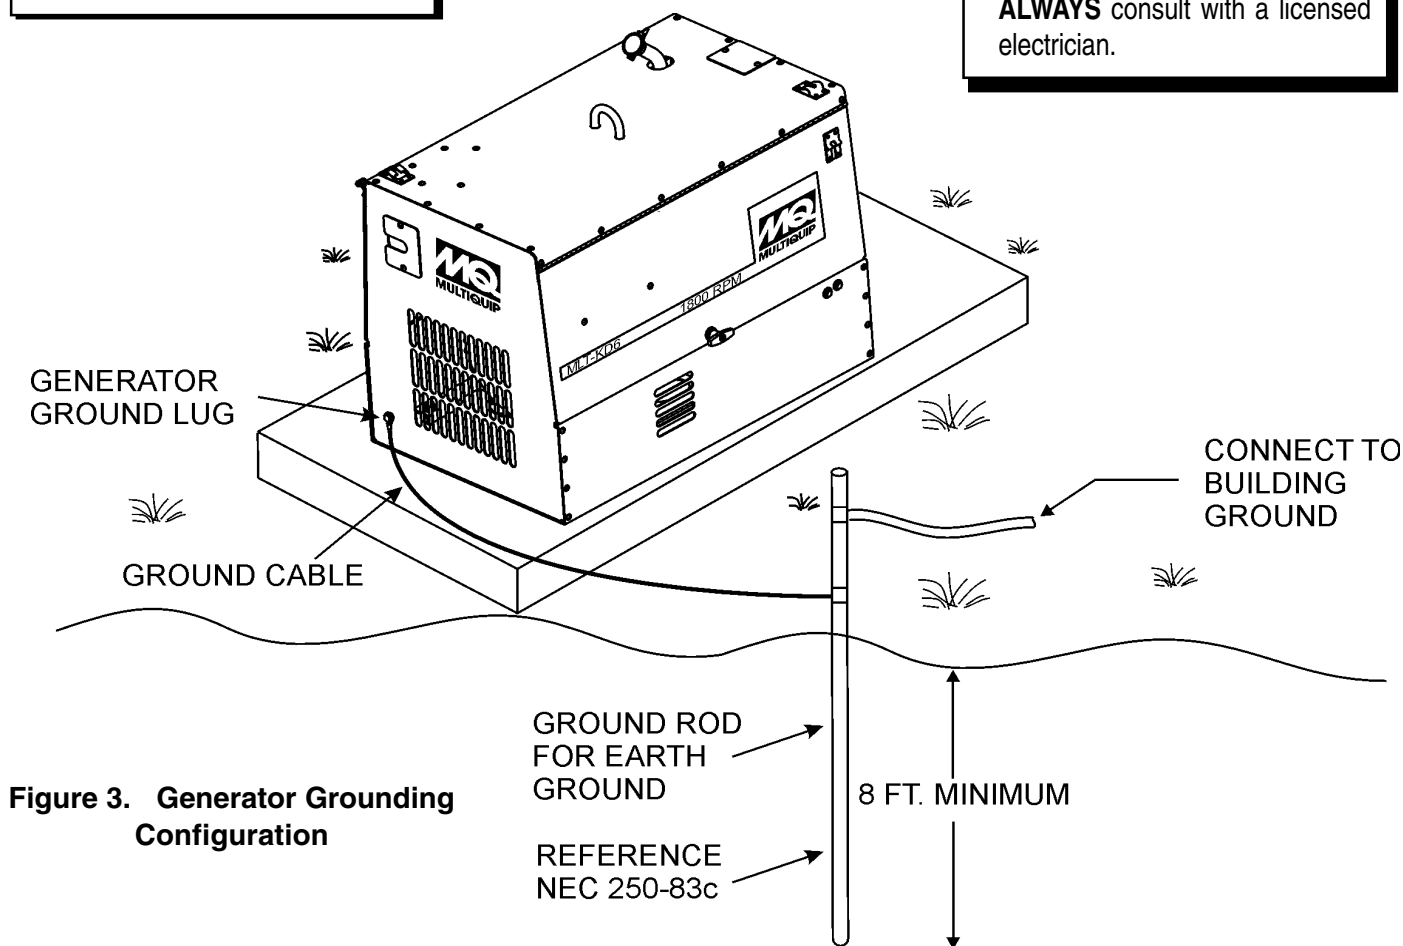

Figure 3. Generator Grounding Configuration
2. The ground terminal on the generator should always be used to connect the generator to a suitable ground. The ground ring on the generator (Figure 3) should be able to accommodate #8 size copper or aluminum wire.